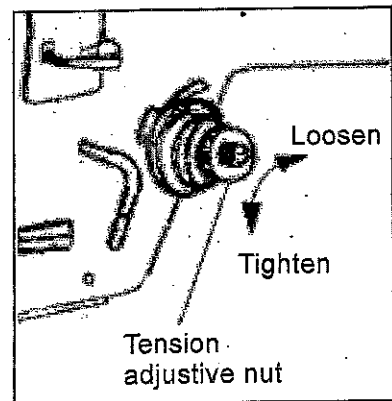

Fig.11
21. The thread tension adjustment (Fig.11,12,14)